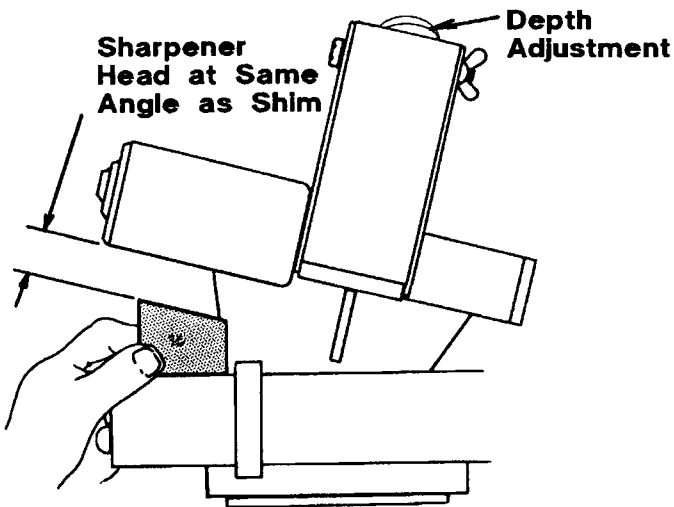

FIG 2-37
Before installing a grinding wheel, set the hook angle at 10 degrees. Since the automatic attachment hinders viewing of the hook angle scale, angled templates are provided to check the angle. The one marked "10" should be used in most cutting applications (The 15 degree template is used primarily when cutting soft woods). Set the straight portion of the template on the clamping fixture, loosen the depth adjustment and/or the back grind adjustment until the sharpener head rests on the hook angle template. (See Figure 2-37). The hook angle is adjusted by loosening the bolt in the vertical plate of the sharpener and tipping the sharpener head until the desired angle is achieved. Be sure the angle is maintained after tightening the adjustment bolt.
2. The gullet depth adjustment raises or lowers the grinding wheel to grind the proper tooth height in the blade (**See Figure 2-37**). The depth of gullet should be set for a nominal 3/16" tooth height.